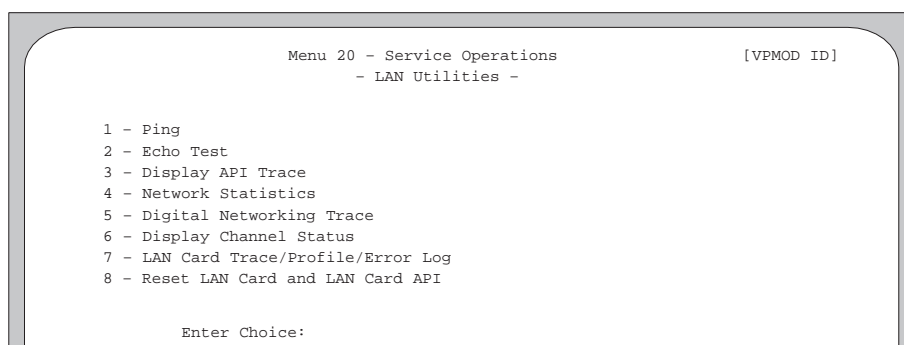

Figure 5-26. LAN Utilities Menu.
2. Access Menu 20 – Service Operations, then the LAN Utilities menu, as shown in Figure 5-26.
2. Access Menu 20 – Service Operations, then the LAN Utilities menu (Figure 5-26), then the Echo Test utility.